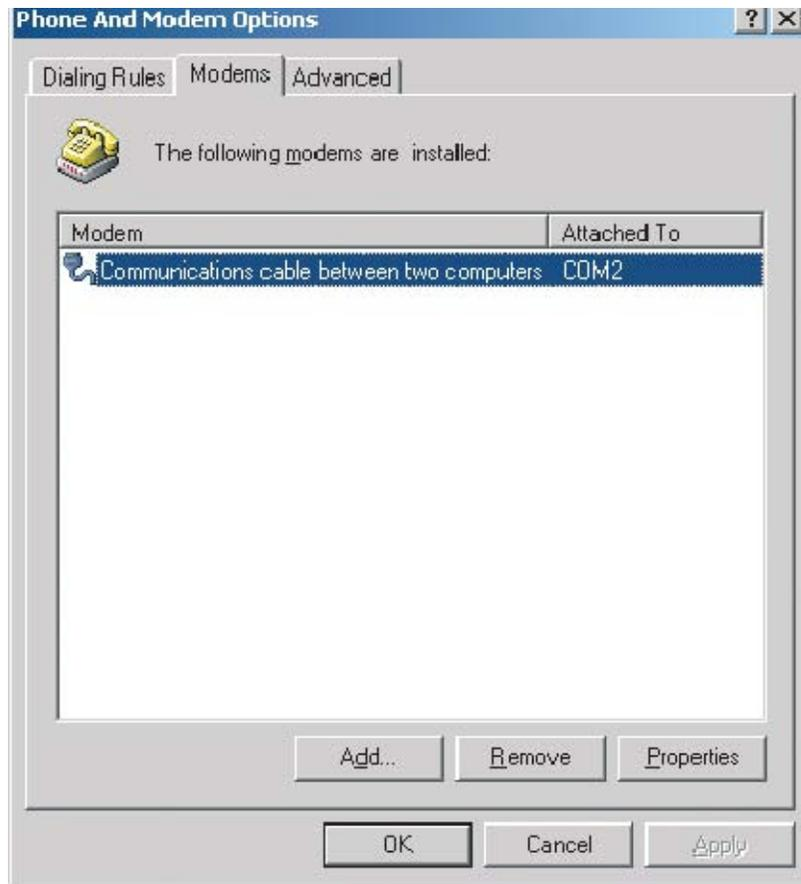

Figure 138: Control Panel - Phone and Modem Options - Modems tab
1. Open Control Panel > Phone and Modem Options. Click the Modems tab, if not selected. See Figure 138: Control Panel - Phone and Modem Options - Modems tab on page 206.